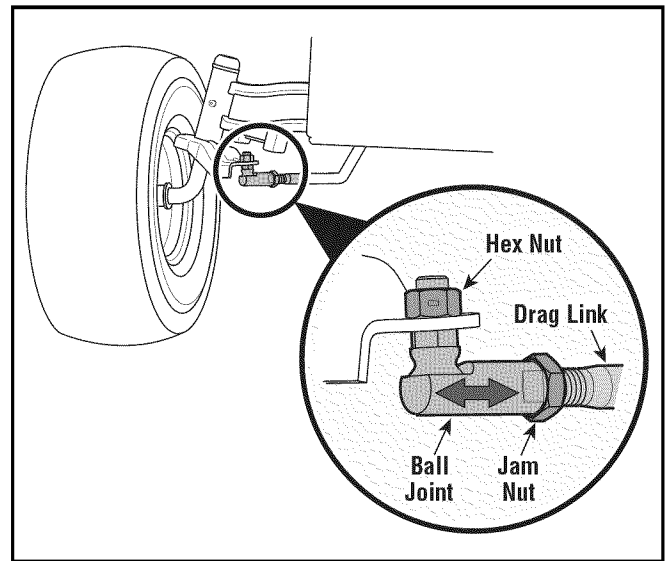

Figure 12
- Loosen the jam nut found on the drag link at the rear of the ball joint. See Figure 12.